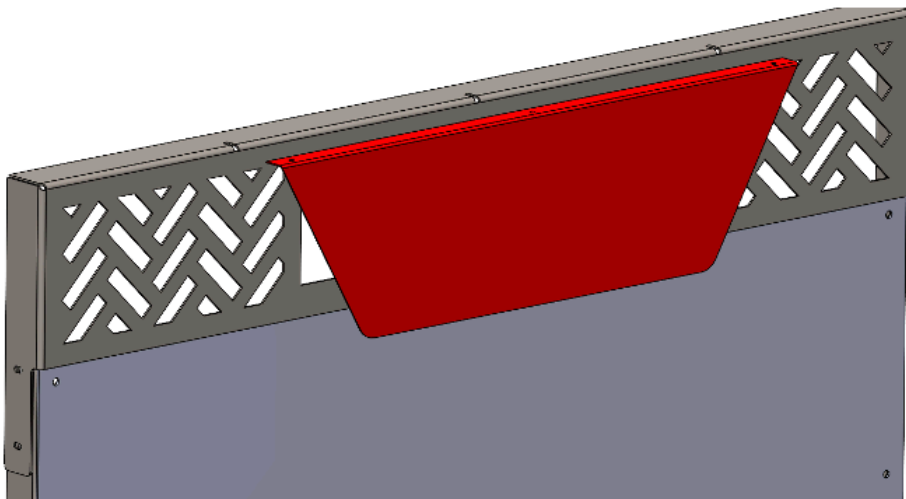

Figure 7
9. Use three (3) ¼" Stainless Steel Cap head bolts, six (6) stainless flat washers, and three (3) stainless nuts (50408-HW) to install red logo plate to 23026 top panel. (Figure 7)